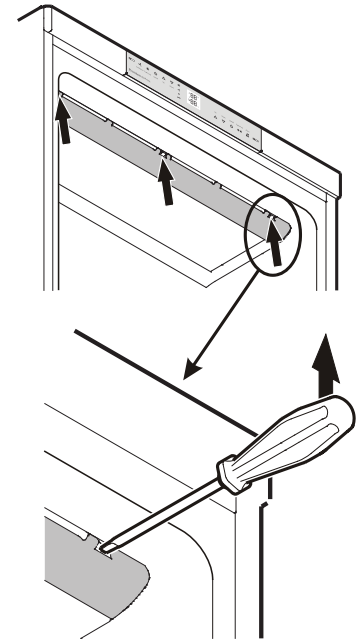

Figure 14
1. Unlatch carefully the cover at left, middle and right using a screwdriver - **Fig. 14**.